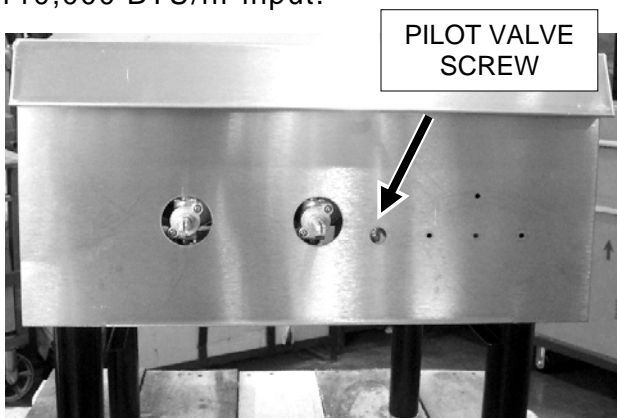

Fig. 1
3. Light standing pilot with a lit taper. Adjust pilot to ¼" high flame, if necessary, by turning pilot valve adjusting screw (see Fig. 1) counterclockwise to increase or clockwise to decrease flame.